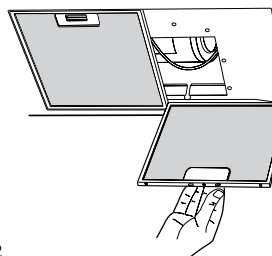

Fig. 2
2. Pull open the handle on the grease filter as shown in fig 2. It will release at the handle side.